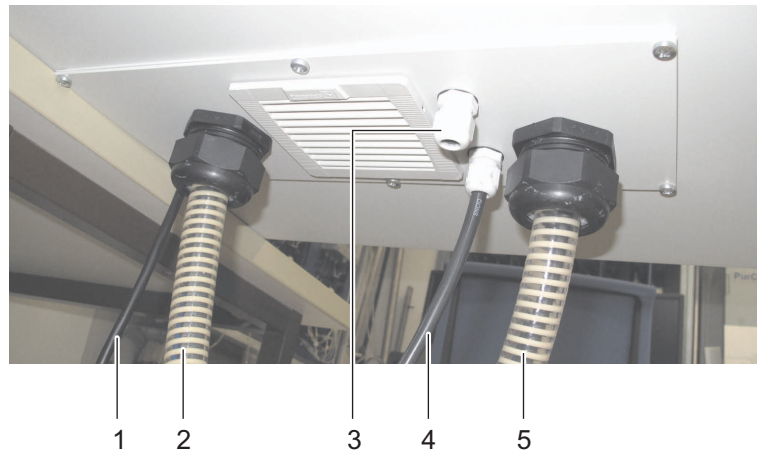

Fig. 3-15: Connection plate on the underside of the housing
- 6 Screw the connection plate with the preassembled tubes to the bottom of the housing again. See Fig. 3-15, 37.